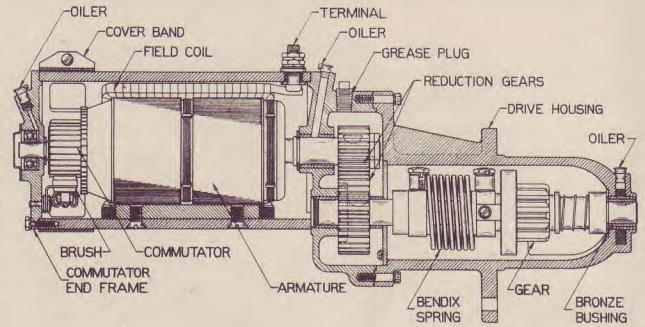

FIGURE 4-6
**Gear Reduction (Figure 4-6).** Some applications use a gear reduction in order to obtain improved cranking torque. Both the Bendix and Overrunning Clutch type cranking motor may use gear reduction.